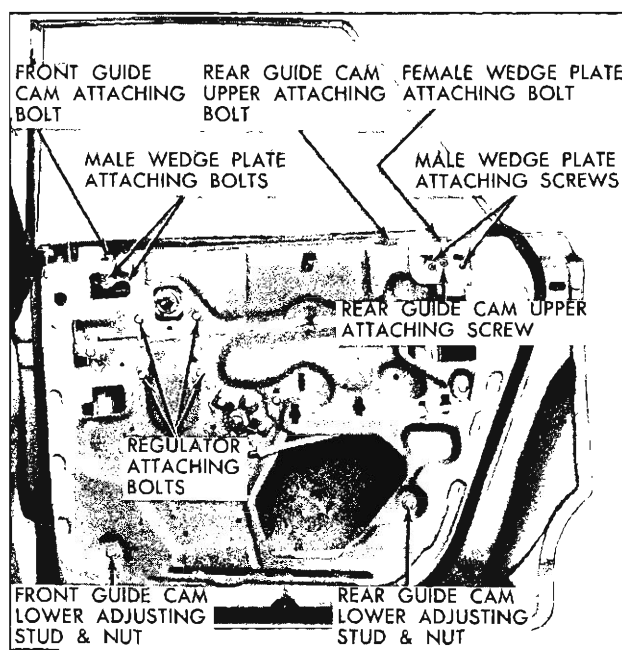

Fig. 50—Rear Door Hardware
4. On 39 styles, equipped with electric window regulators, loosen rear guide cam upper attaching stud and bolt. This is necessary to move lower section of rear guide cam rearward far enough to permit removal of electric window regulator and motor assembly. Figure 50 shows the rear guide cam attachments and is typical of rear guide cams equipped with power windows.
4. Remove regulator attaching bolts (four), disengage balance arm from inner panel cam and remove regulator assembly through large access hole (fig. 50).
2. Through inner panel access hole remove front guide cam upper attaching screw(s) and front guide cam lower adjusting stud and nut (fig. 50).
2. Raise door window. Through inner panel access hole remove front guide cam upper attaching bolt (fig. 50).
2. Remove rear cam upper attaching screws and lower adjusting stud and nut (fig. 50).
2. Through access holes in door inner panel remove screws securing rear door window front and rear male wedge plates to window lower sash channel and remove wedge plates (fig. 50).
- a. Loosen lower adjusting stud nut on both front and rear guide cams (fig. 50).